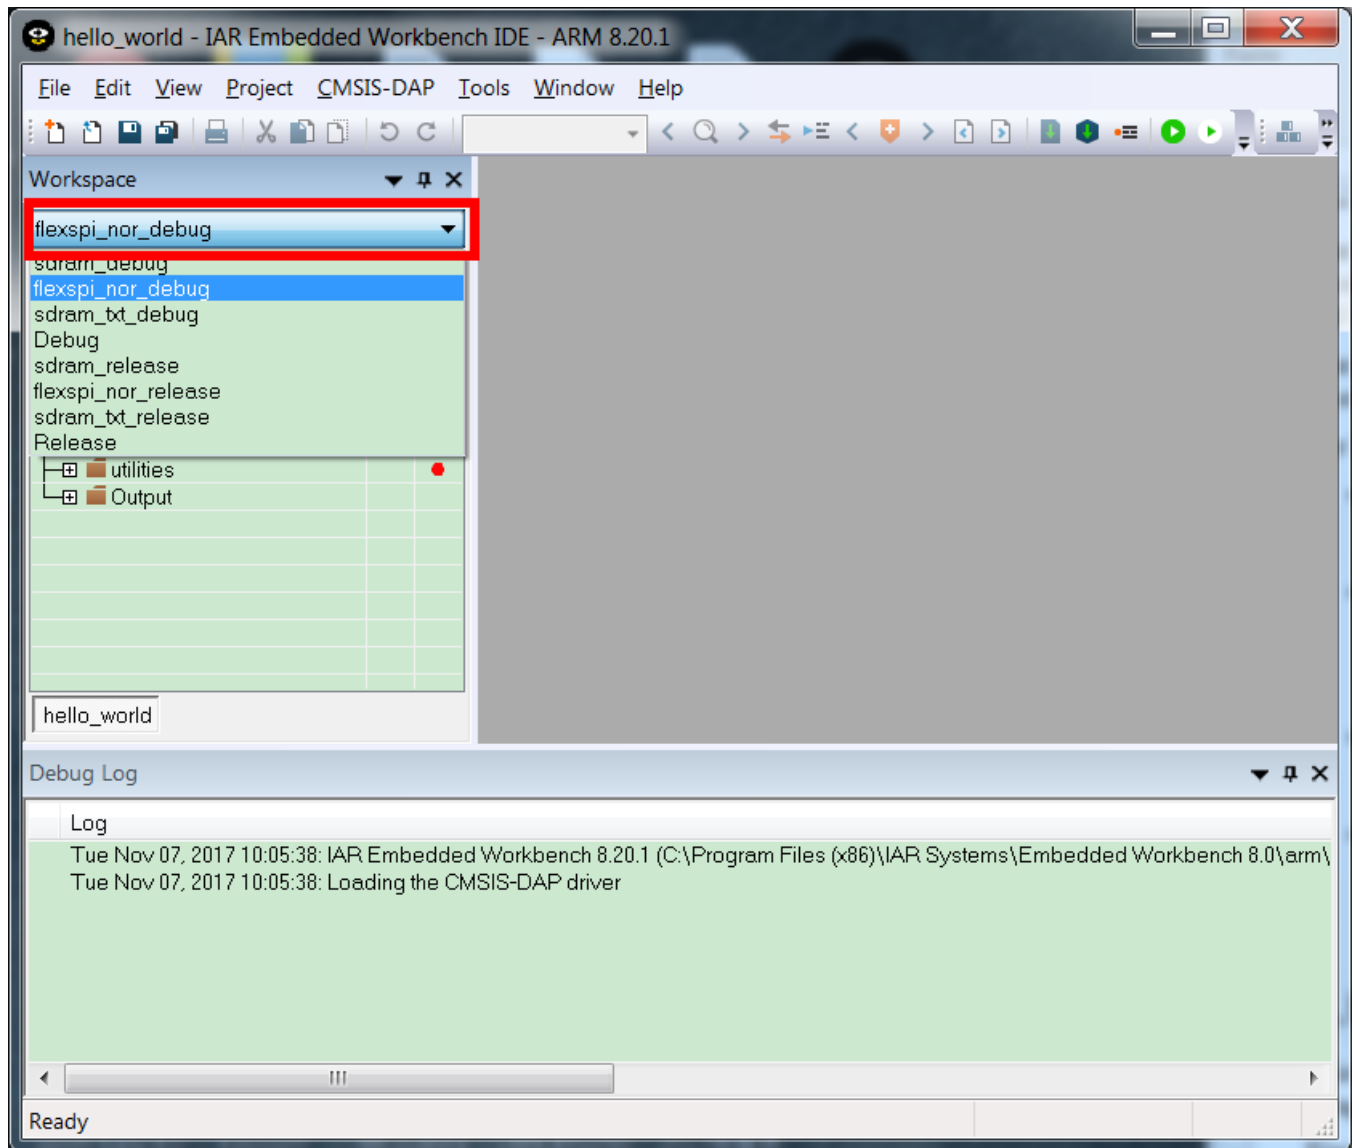

Figure 4. Select the project configuration as flexspi_nor_debug
- Open the Hello world demo in the SDK and select the project configuration as flexspi_nor_debug.(Figure 4)